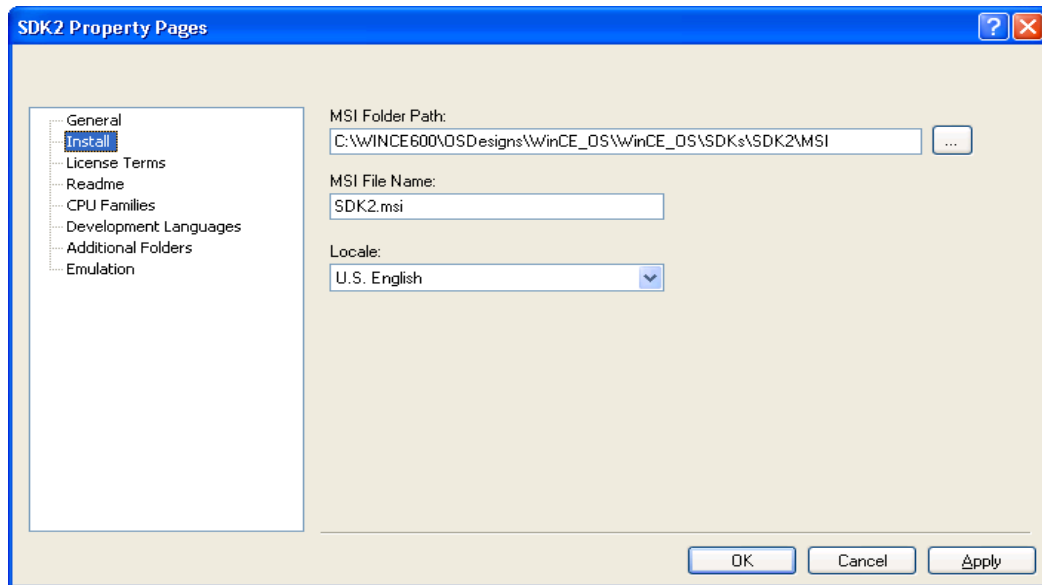

Figure 55. SDK Property Page
4. On the SDK property page, click on Install and enter MSI folder path and MSI file name on the right side as shown in figure 55.
5. Use the default path, and enter Your SDK Name.msi as the file name as shown in figure 55.